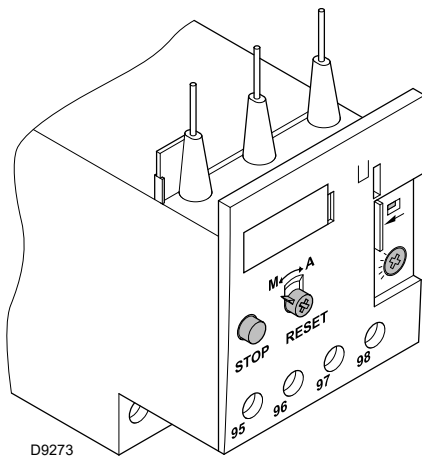

Fig. 17
The electro-mechanical thermal relay (Fig. 17) is used to avoid damage to the motor owing to a strong increase in absorption or the lack of a phase.
- To reset, in the case of an intervention of the thermal relay, press the button **"RESET"** (Fig. 17).
- The button **"STOP"** (Fig. 17) opens the NC (95-96) contact and stops the motor.